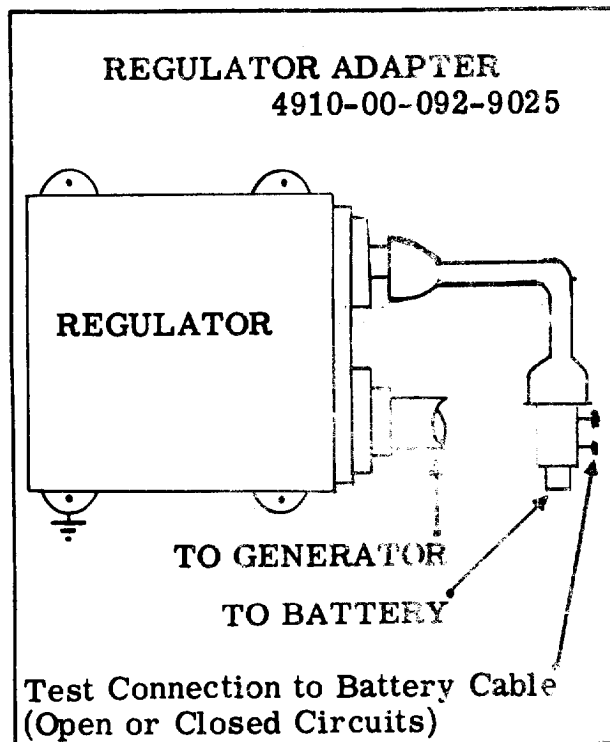

Figure 2. Regulator adapter (4910-00-092-9025)
- (1) Disconnect regulator cable at regulator and plug adapter into regulator socket.
- (2) Reconnect regulator cable to free end of regulator adapter (fig 2).